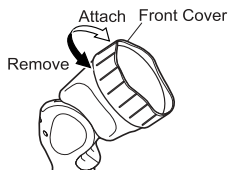

Fig. 3
- Remove the front cover. (Fig. 3)